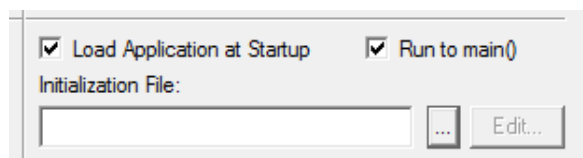

Figure 28. Load Application at Startup Settings
5. From the **Options for Target 'Demo'** dialog, select the **Load Application at Startup** checkbox, as shown in Figure 28, the so that the IDE will download the code upon connection. There is no need to select or enter an initialization file.